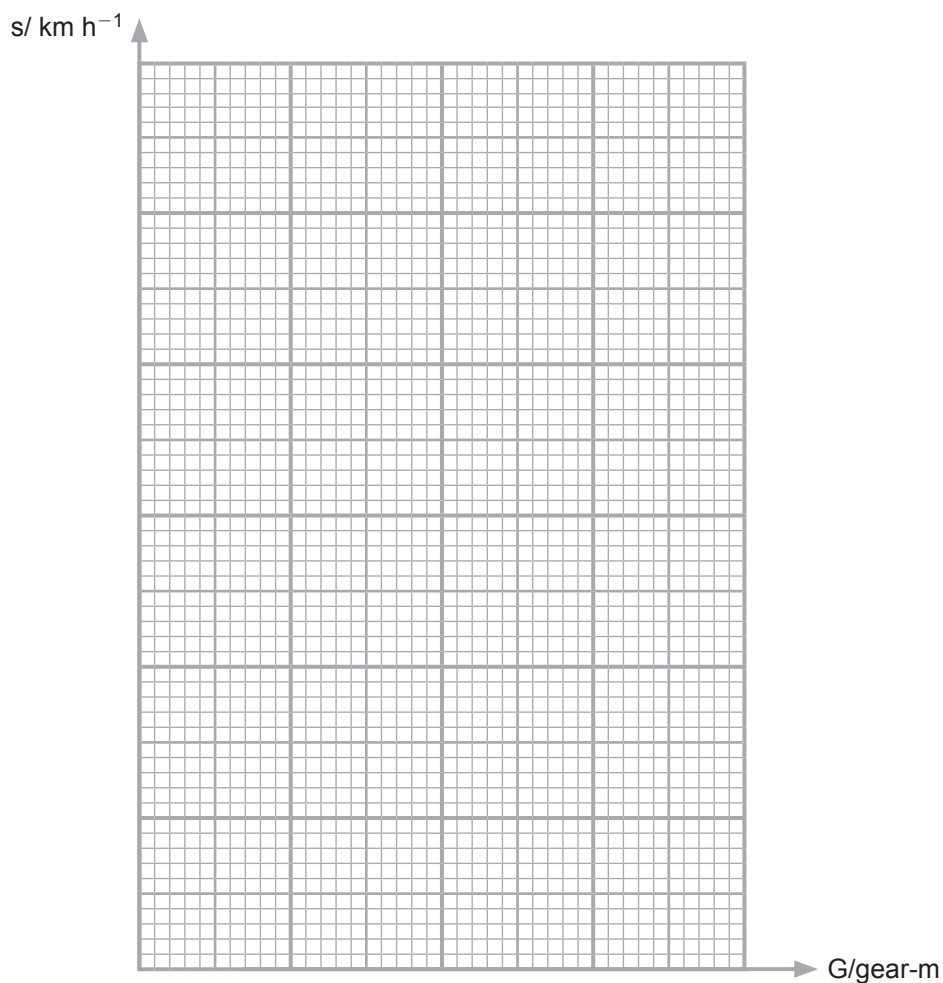

Fig. 5.2
- (i) On the grid of **Fig. 5.2**, draw the graph of s against G using the data in **Table 5.2**. Choose suitable scales to allow you to determine the value of the cadence. Plot the points and draw the best fit line. [5]